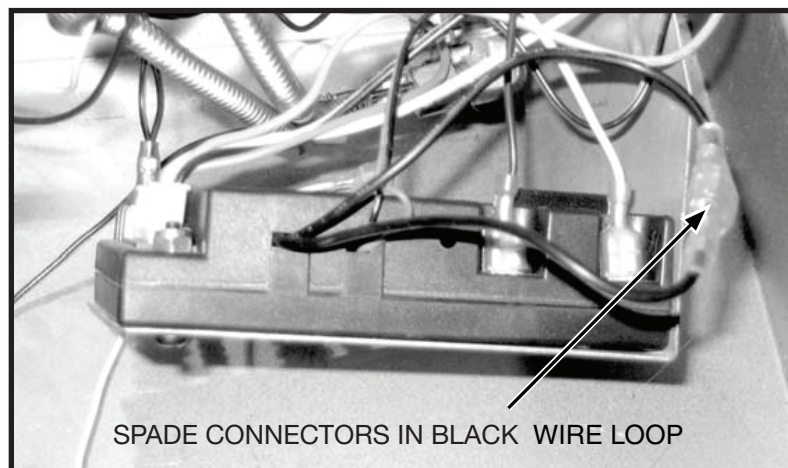

Figure 7: Spade connector location.
3. Locate and disconnect the spade connectors in the black wire loop on the right side of the module (Figure 7).